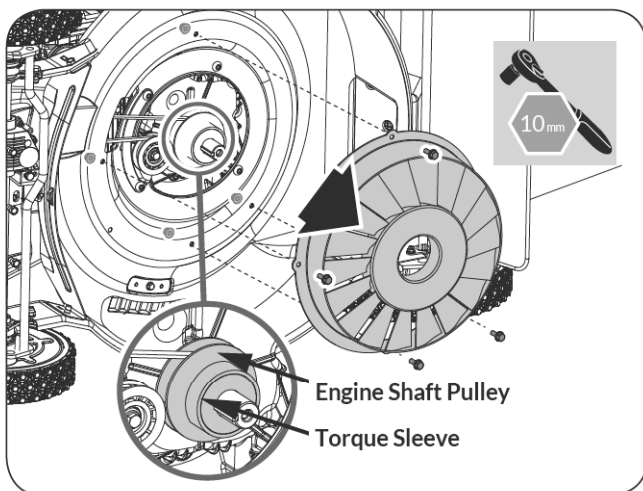

Figure 17
4. Remove the four M6x12 bolts fixing the engine pulley cover and put the engine pulley cover aside. (See **Figure 17**)